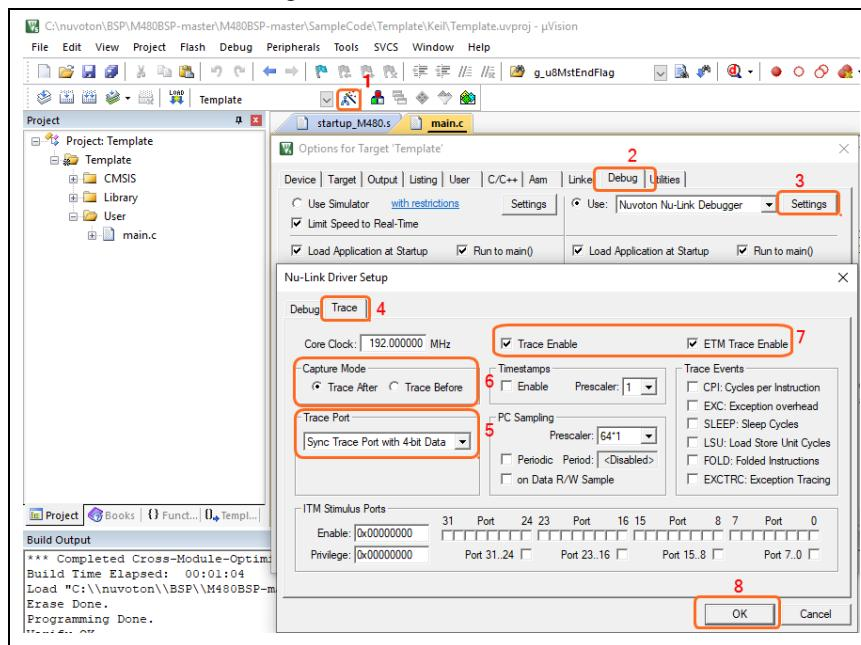

Figure 5.2-21 Trace Setup with ETM
- (10) Configure the NuTrace.
- As shown in Figure 5.2-21, In debug setting dialog, select the “**Trace**” tab.